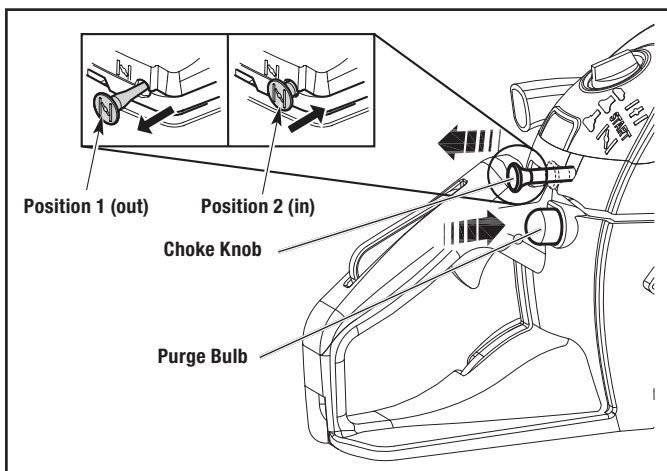

Figure 4
2. First time use, or after sitting unused for 3 or more months, slowly push the PURGE bulb all the way in and release 20 times (Fig. 4). For starting after recent use, push the PURGE bulb 10 times. If fuel cannot be seen in the purge bulb, push and release the purge bulb until fuel is visible, and then push 5 more times to purge air and vapor bubbles out of the carburetor.
3. Pull the choke knob out to position 1 "CHOKE"  until it locks in place and you feel and hear the click. (Fig. 4).
5. DO NOT touch the throttle control. After the engine pops or putters, then push the choke knob in to position 2 "RUN" . In position 2, the choke is open, and the throttle is cracked open to the starting position. (Fig. 4).